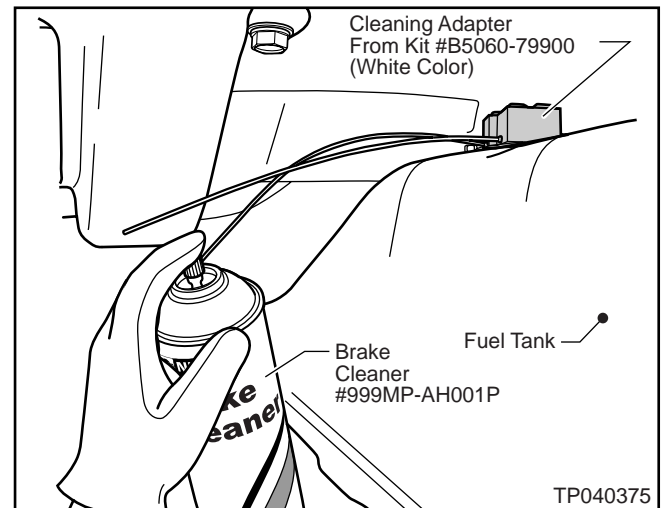

Figure 7
7. Spray Brake Cleaner #999MP-AH001P through each Adapter Tube for about two seconds (see Figure 7).